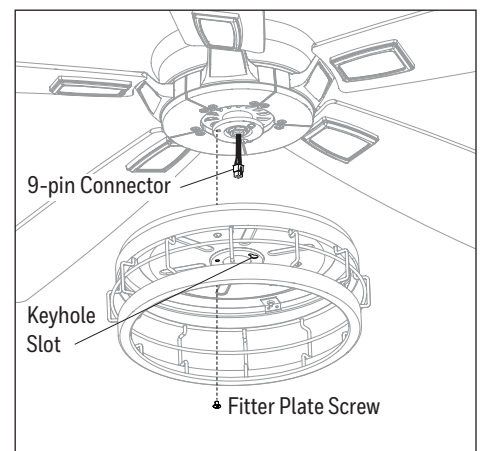

Figure 5.6
- Remove one of the three fitter plate screws preassembled to the fitter plate and loosen the other two but do not remove. Feed the 9-pin connector through the center hole in the light pan. Align the keyhole slots in the light pan with the loosened screws in the fitter plate. Turn light pan clockwise and replace the previously removed fitter plate screw. Tighten all screws. (Figure 5.6).